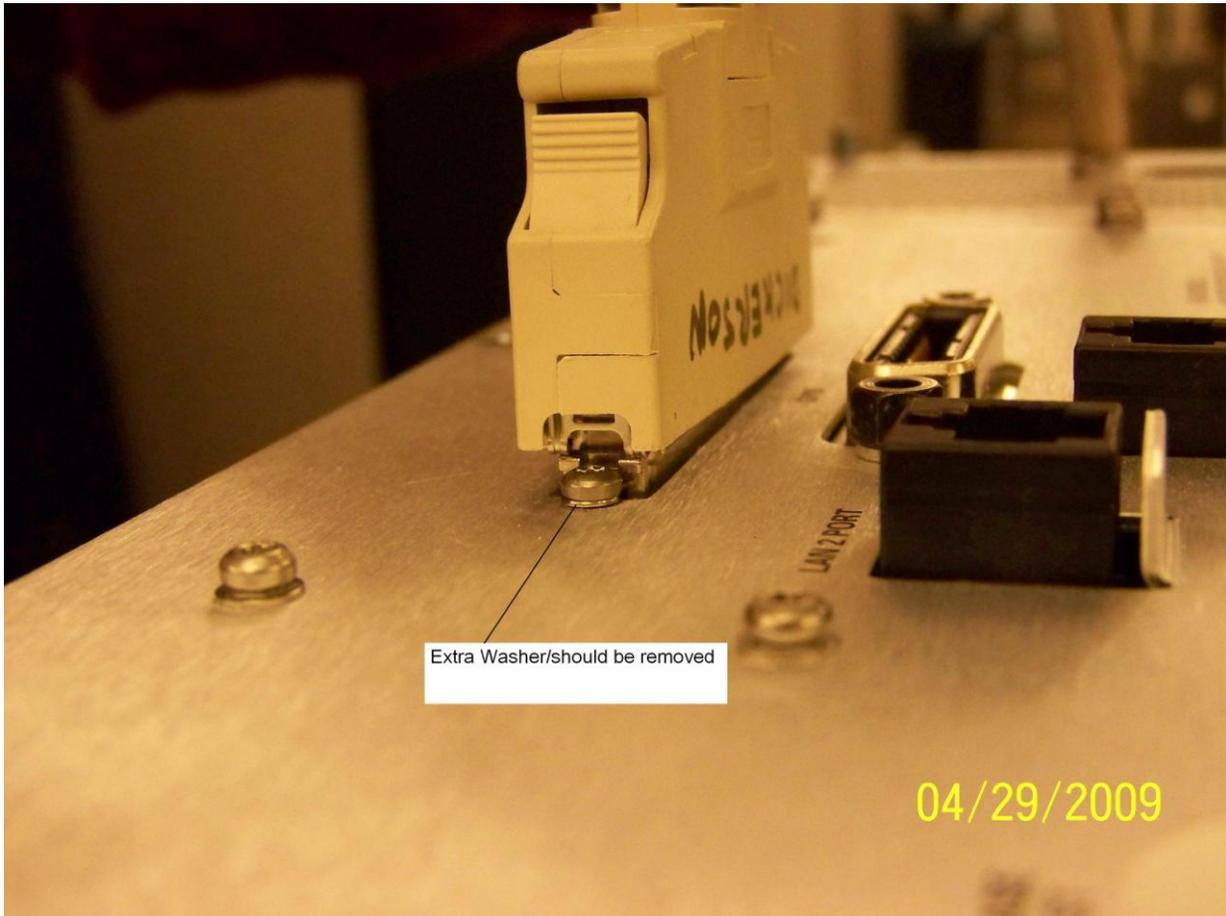

Figure 1
3. Loosen the two screws connecting the digital bus connector (see Figure 1).